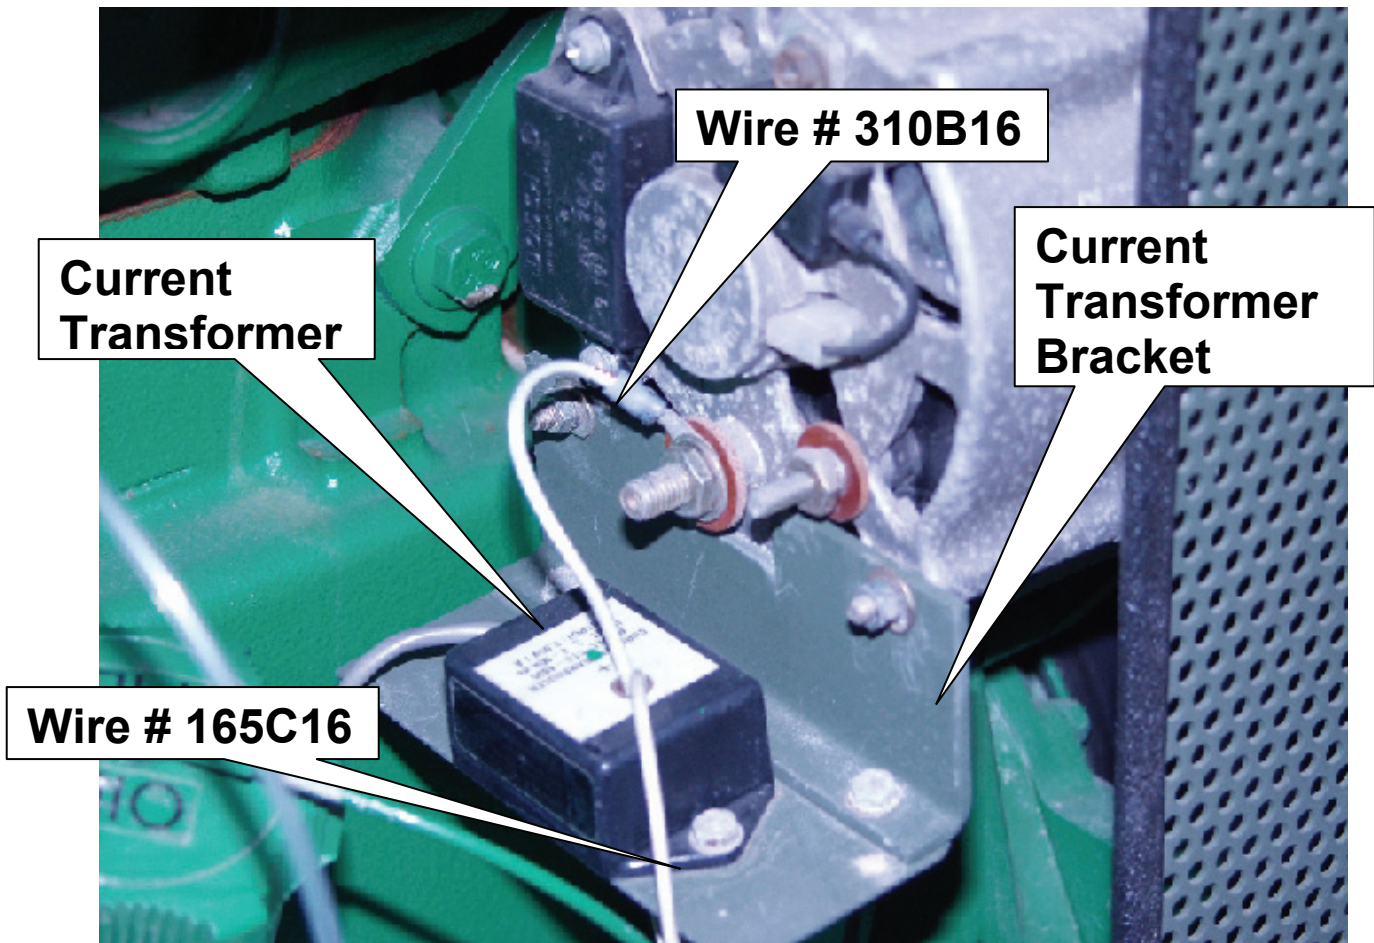

Figure 3 Alternator compartment
3 Disconnect wire #310B16 from the positive terminal on the battery charging alternator, cut off the terminal lug and remove the wire and fuse holder from the harness, see figure 3. If wire #165C16 has not been removed from the current transformer, perform the procedure in appendix A to move the DC control power wire.
4. Remove the current transformer bracket from the back of the alternator, see figure 3. Remove the battery charging current transformer from the bracket and discard the bracket.